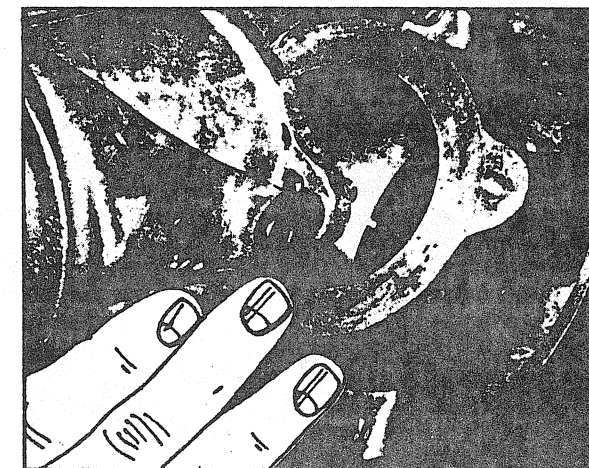

FIGURE 2
- With a 1/2" wrench, unbolt the two (2) capscrews securing the reverse housing to nozzle, and remove the housing (fig. 2).